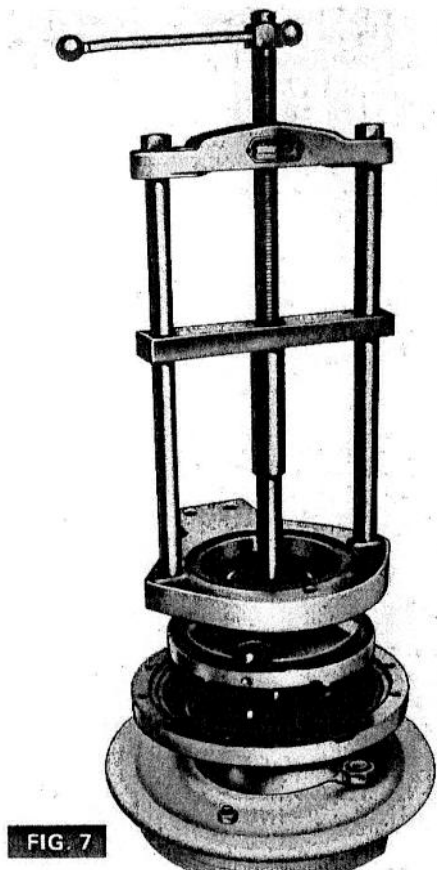

FIG. 7
2. (Fig. 7) Assemble the special tool MF 200 and 200 - 24 onto the epicyclic carrier bearing and remove the bearing.